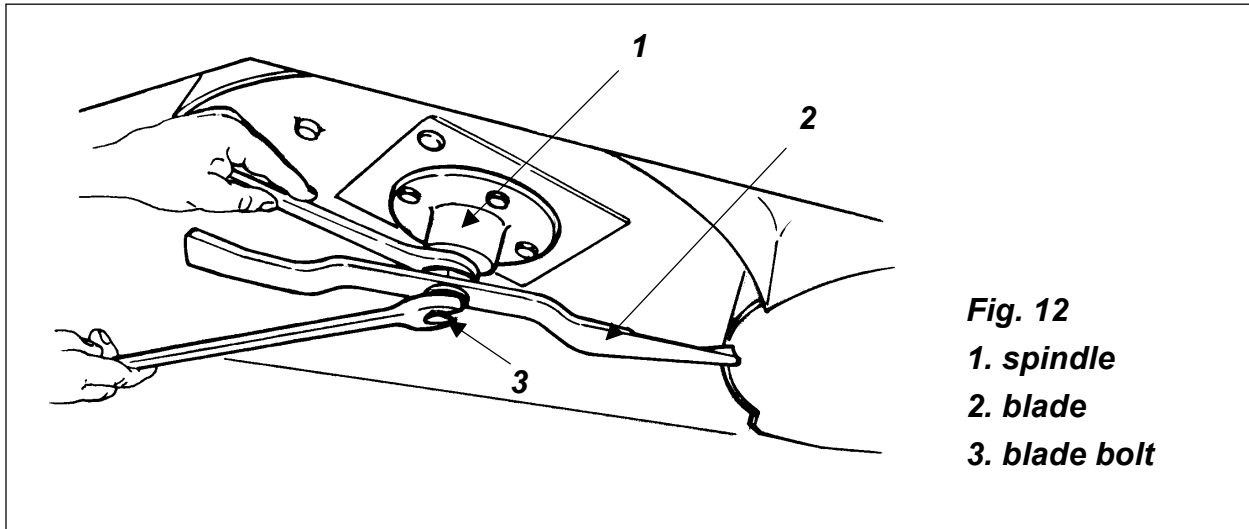

Fig. 12
3. With a wrench, block the spindle and tighten the bolt to 103 lb. ft. (**see fig. 12**).